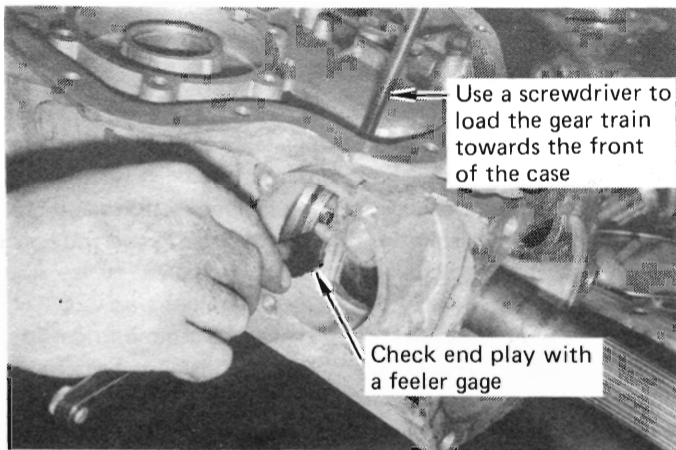

FIGURE 46
STEP 11. Insert a screwdriver into the rear portion of the case and load the output shaft forward. Insert a feeler gage between the four tab thrust washer and the three prong selective thrust plate. (See Fig. 46) End play should be 0.007 - 0.019". Adjustment can be made by different thickness thrust plates available from your GM dealer.